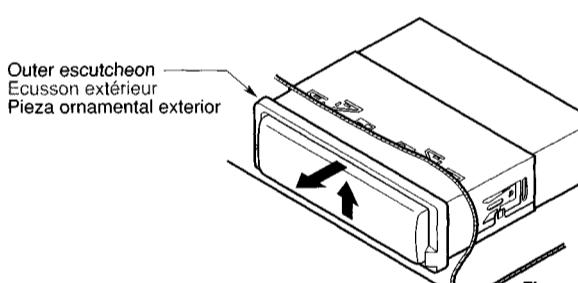

Figure 7 / Figure 7 / Figura 7
- 2 Press the outer escutcheon upward and remove it (Figure 7).